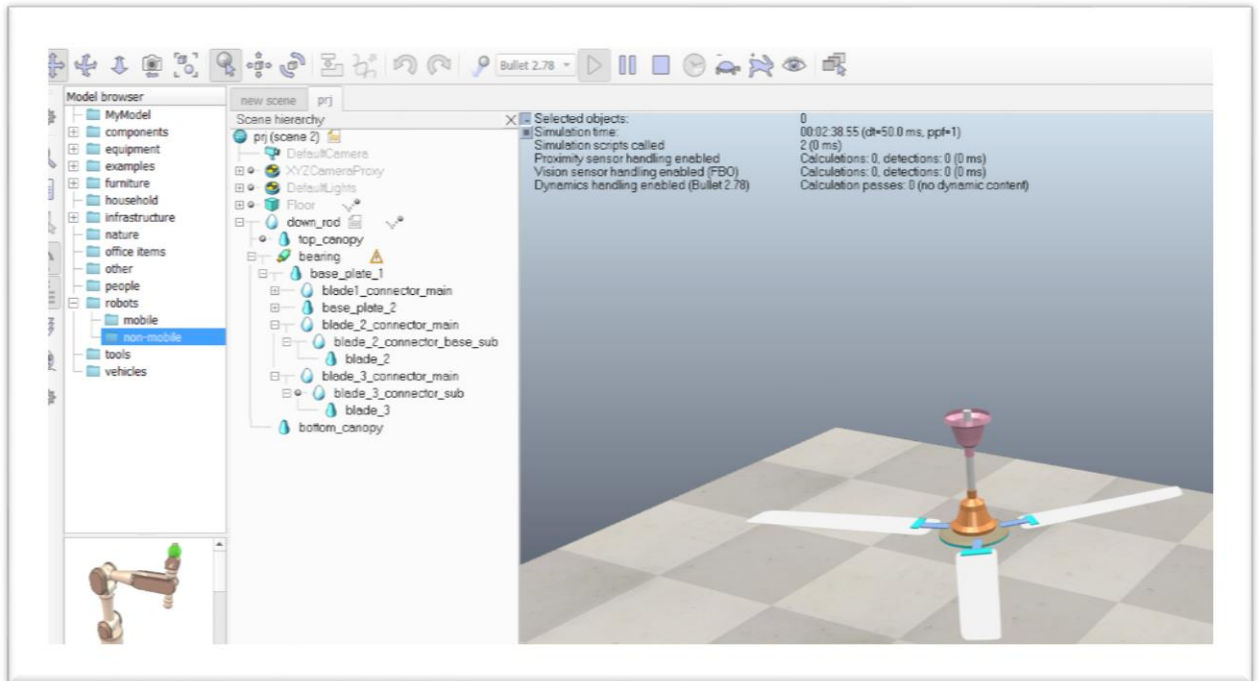

Fig. 8: the model fan is moving [source: Author's]
- (24) We are adding the script so the fan starts moving when the simulation runs.
- (25) Run the Simulation by pressing the “**start/resume simulation**” button. Observe that our model fan is rotating. As depicted in Figure 8.